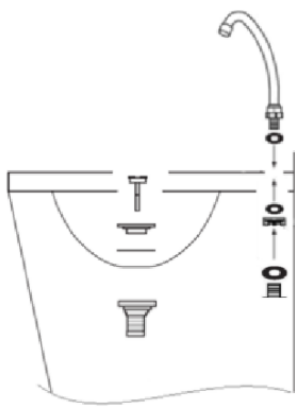

Fig.8
- Assemble the Swivel gooseneck faucet, place the seal into the threaded inlet of the swivel faucet and thread the Male/Female Brass Reducer 3/4" x 1/2". After that, assemble also the draining valve as per Fig.8.